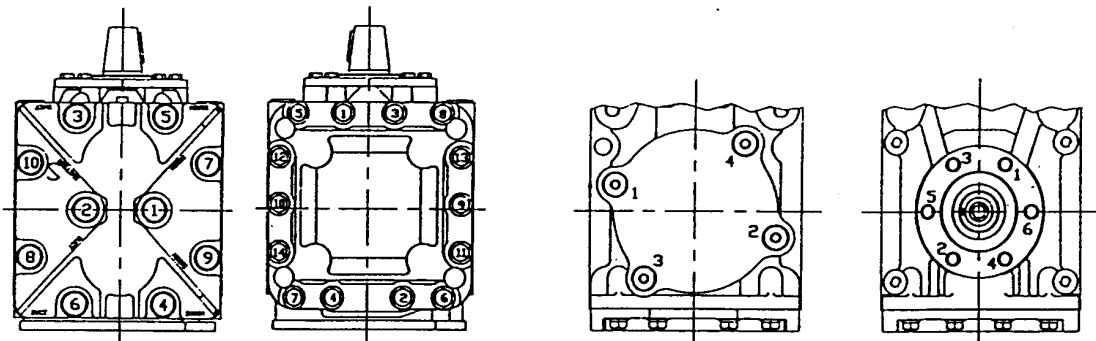

FIGURE 2.
7.1.6 Position the seal plate with uniform clearance around the shaft and install the six cap screws. Tighten cap screws in the sequence shown in FIG.2 Torque to 5-8 ft-lbs.
7.3.2 Install the base plate and bolts. Tighten base plate bolts in the sequence shown in FIG. 2 to 10-16 ft-lbs torque.